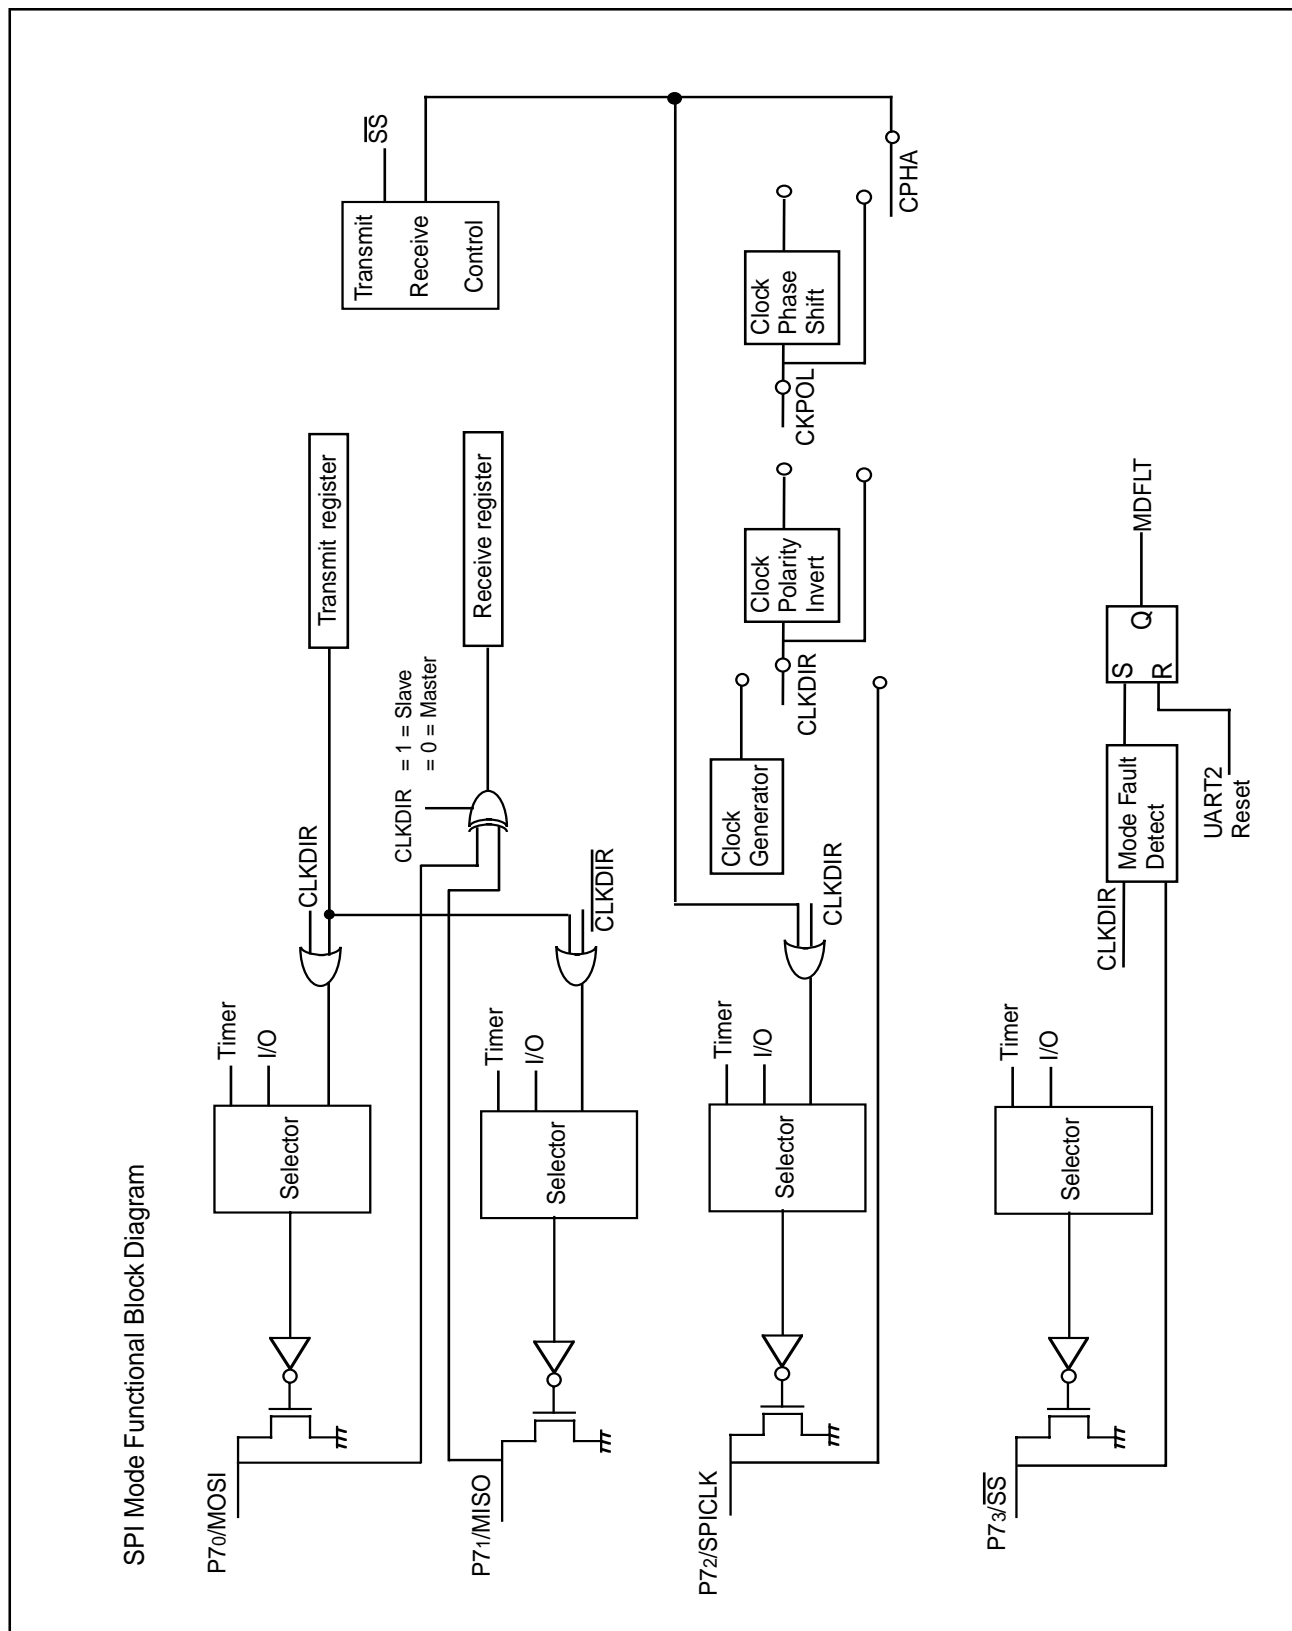

Fig. 1.112 Functional block diagram of SPI mode
- (1) An alternate clock to data relationship can be chosen with the CPHA bit (in U2SMR3). This bit can only be set when SPI bit is a "1". All four SPI clock to data formats are possible by using the CPHA bit together with the CKPOL bit (in U2C0). Figure 1.112 shows the function block diagram of SPI mode.
- (2) The RxD pin becomes the MISO pin.
- (3) The TxD pin becomes the MOSI pin.
- (4) P7[3]/ $\overline{\text{CTS}}$ B/ $\overline{\text{RTS}}$ B functions as the Slave Select input. This input is active low.
- (5) When configured as a master, a Mode Fault will be detected if the Slave Select input goes low. If no port pin is assigned to be a slave select input, then mode fault detection is disabled.
Select function	<ul style="list-style-type: none"> • LSB first or MSB first selection Whether transmission/reception begins with bit 0 (LSB) or bit 7 (MSB) can be selected. • Function for setting an SOUT_i initial value selection When using an external clock for the transfer clock, the user can choose the SOUT_i pin output level during a non-transfer time. For details on how to set, see Figure 1.112.